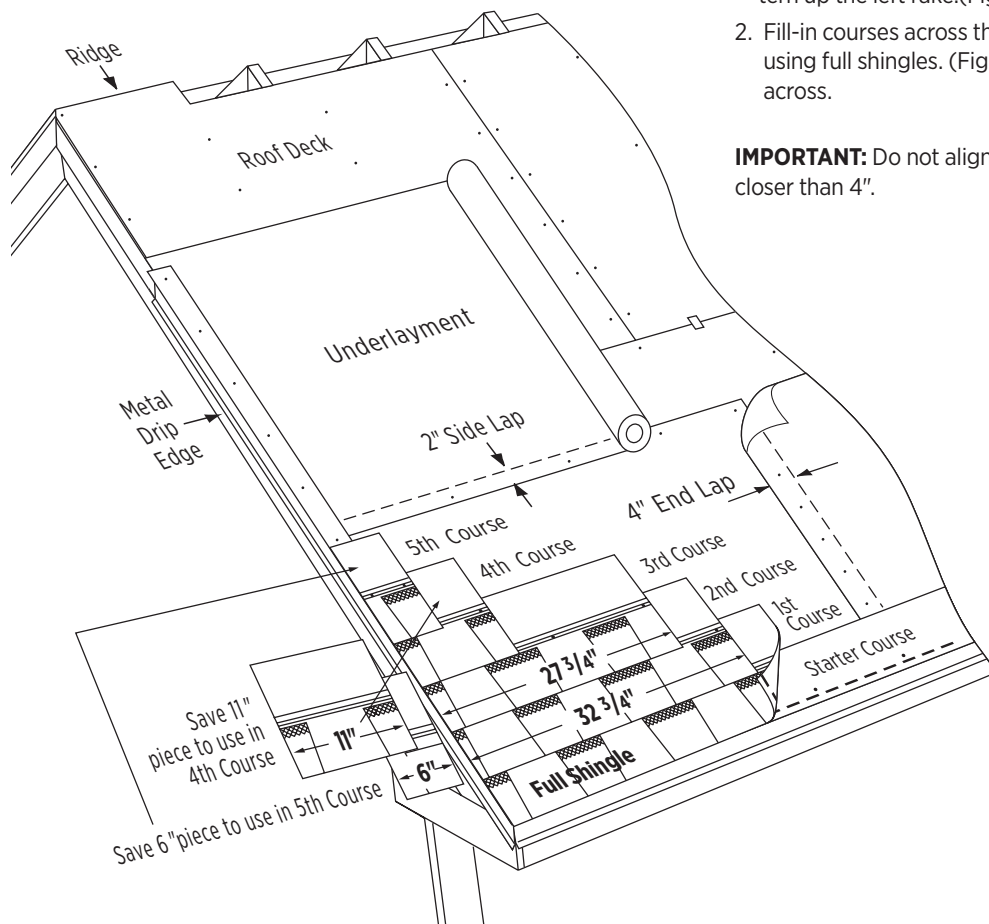

Figure 11-7: Applying the first 5 courses of Landmark.
**1ST COURSE:** Apply a full shingle at the lower left corner of the roof. Make the lower edge and left edge lie flush with the edges of the starter course (Figure 11-7).